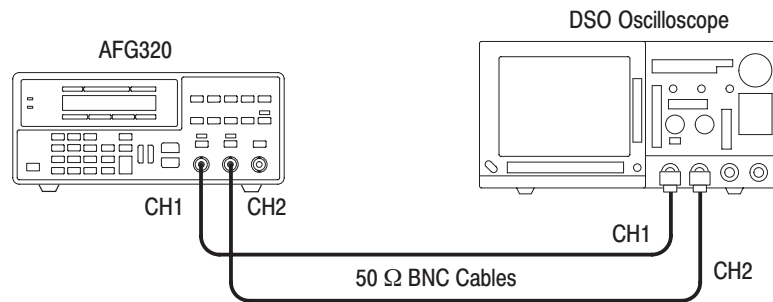

Figure 2–17: Hookup for Observing Output Waveforms
1. Connect the instrument to an oscilloscope using two 50 Ω cables with 50 Ω terminations as shown in Figure 2–17. The instrument is calibrated for waveform output to a 50 Ω load.